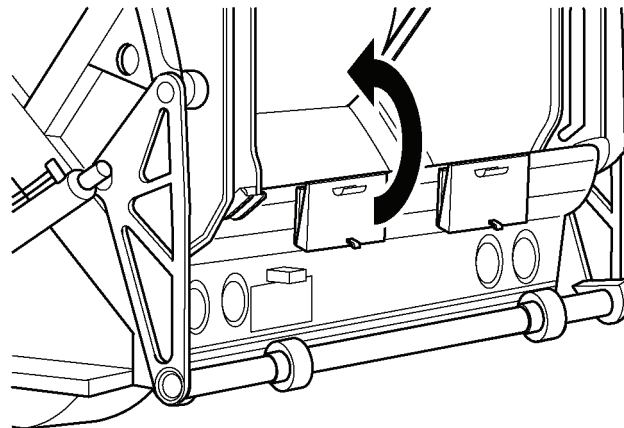

Figure 27
1. PULL the cart tipper lever up to dump the residential cart contents into the hopper (Figure 27).